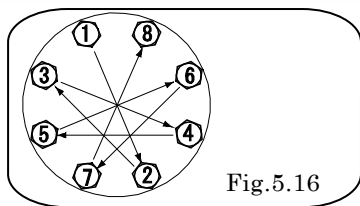

Fig. 5.16
- Tighten the bolts gradually in a diagonal sequence with even torque. [Fig. 5.16].